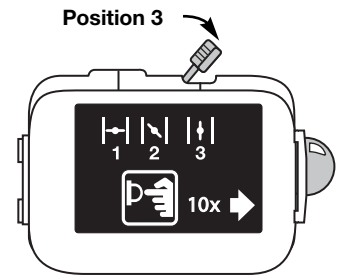

Fig. 10
10. Place the choke lever in Position 3 (Fig. 10). The unit is ready for use.